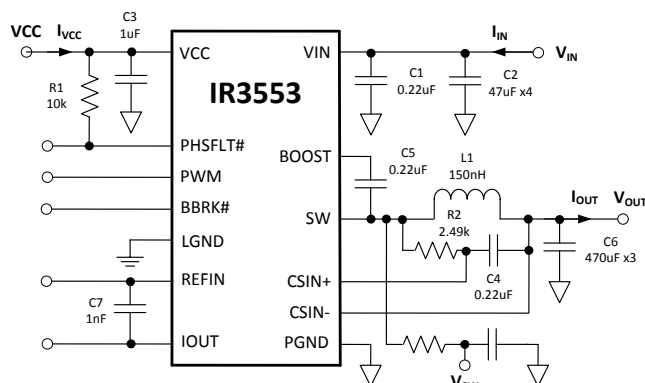

Figure 32: IR3553 Power Loss Measurement
Circuit of Figure 32, $V_{IN}=12V$, $V_{OUT}=1.2V$, $f_{SW} = 400kHz$, $L=150nH$ (0.29mΩ), $V_{CC}=7V$, $T_{AMBIENT} = 25^{\circ}C$, no heat sink, no air flow, 8-layer PCB board of 3.7" (L) x 2.6" (W), no PWM controller loss, no inductor loss, unless specified otherwise.
The single-phase IR3553 efficiency and power loss measurement circuit is shown in Figure 32.